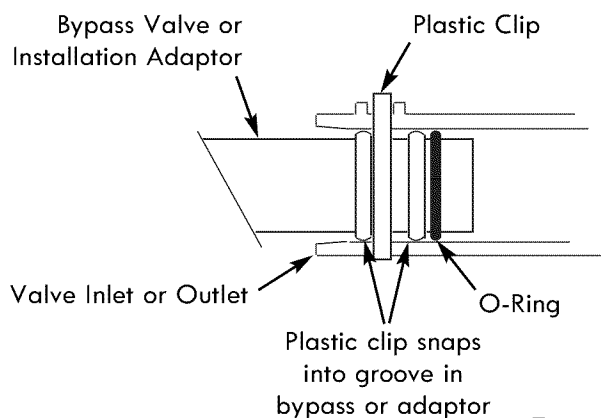

Figure 6
6. Lightly coat the o-rings with silicone grease and slide them onto the bypass valve. Push the bypass valve into the softener valve's inlet and outlet ports as far as it will go. Snap the two large holding clips into place, from the top down as shown (see Fig. 6).
7. Lightly coat the o-rings with silicone grease and slide them onto the installation adaptors. Push the adaptors into the valve inlet and outlet ports, or bypass valve ports, as far as they will go. Both adaptors are the same and fit either port. Snap the two large holding clips into place, as shown (see Fig. 6).